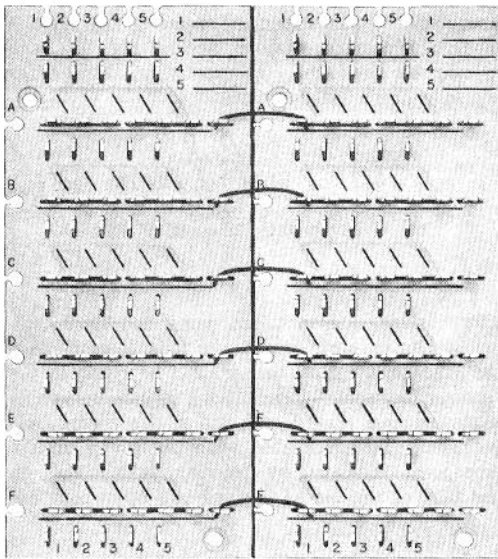

Fig. 3—Modular Array (Multiplied Horizontally)
2.03 The various components used in the assembly of a complete 1A1 Matrix Block are shown in Fig. 2. It will be noted that the cross-grid or "matrix" array consists of five vertically positioned rows of a 8-clip terminal (8-terminal connector). The uppermost clip is for the termination of connecting circuit leads. The bottom (end) clip serves as a multiplying point for extending the capacity of the matrix unit. Six rows of a 7-clip terminal (7-terminal connector) are positioned at right angles to these. The left-hand clip on each serves to terminate external circuit leads. The right side (clip) serves as a multiplying point for extending the horizontal capacity (Fig. 3, 4, and 5).
provided. Where extended capacity beyond one block is necessary, modular arrays (Fig. 3, 4, and 5) may be employed. Respectively, these offer the following additional capacities: